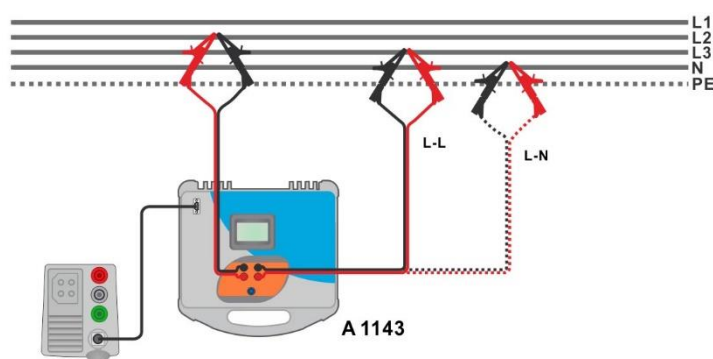

Figure 7.61: Phase-neutral or phase-phase high precision Line impedance measurement – Connection of A 1143
- Connect test leads to the object under test, see **Figure 7.61**.